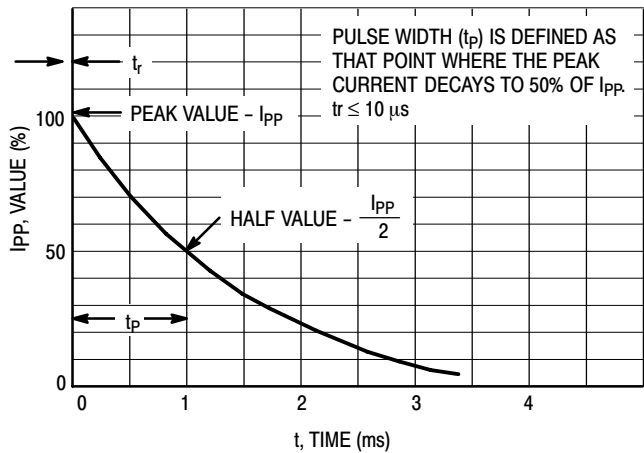

Figure 5. Pulse Waveform
1. Nonrepetitive current pulse per Figure 5 and derated above  $T_A = 25^\circ\text{C}$  per Figure 2.
7. Surge current waveform per Figure 5 and derate per Figures 1 and 2.